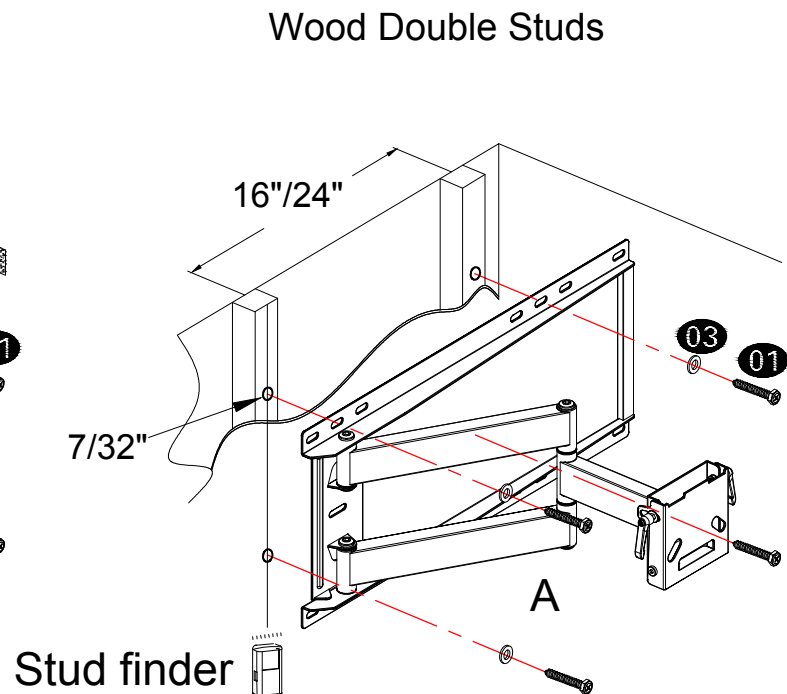

Figure 2 (keep the wall plate level)
Pre-drill the mark 4 holes using 7/32" drill bit to a depth of 2.5"mm, fix wall plate (A) to the wall with screws (01) and washers (03). (Figure 2)
If you mount TV mount into wood studs, pre-drill the mark 4 holes using 7/32" drill bit to a depth of 2.5", fix wall plate unit (A) to the wall with screws (01) and washers (03). (Figure 2)